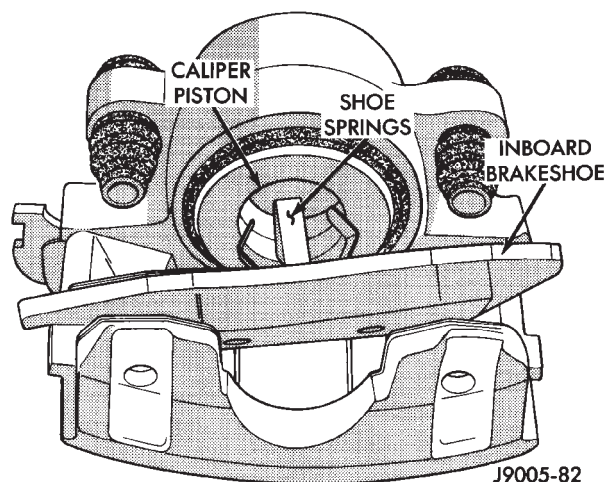

Fig. 30 Inboard Brakeshoe Removal
(7) Remove inboard shoe. Grasp ends of shoe and tilt shoe outward to release springs from caliper piston (Fig. 30). Then remove shoe from caliper.